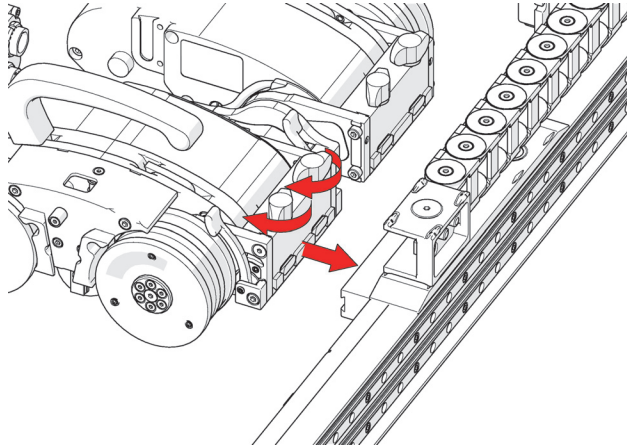

Figure 2-40 Mount raster arm to the right drive module's swivel mount
2. Loosen the two black wing knobs of the right drive module. Affix the raster arm with the probe holder mount onto the dovetail jaws of the right drive module's swivel mount (see Figure 2-40 on page 82).